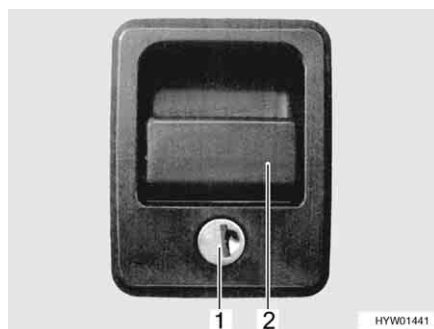

Fig. 40 Flap lock with recessed handle
- Opening:** ■ Insert key into locking cylinder (Fig. 40,1) and turn a quarter turn. The flap lock is unlatched.
- Pull on the lock handle (Fig. 40,2). The external flap is open.